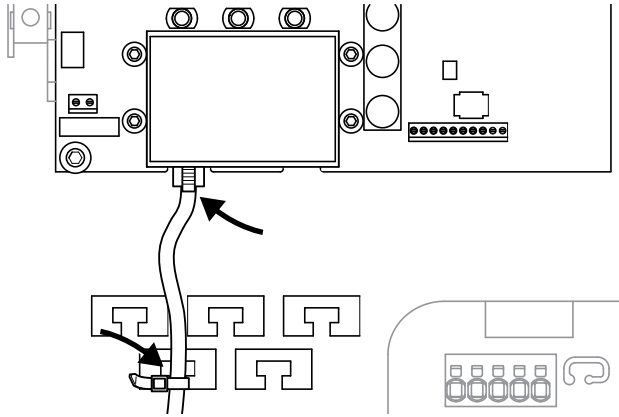

Fig. 35: Fasten the cable to the cable tray
1. Properly fasten all cables to the cable tray with a cable tie.  **Fig. 35**